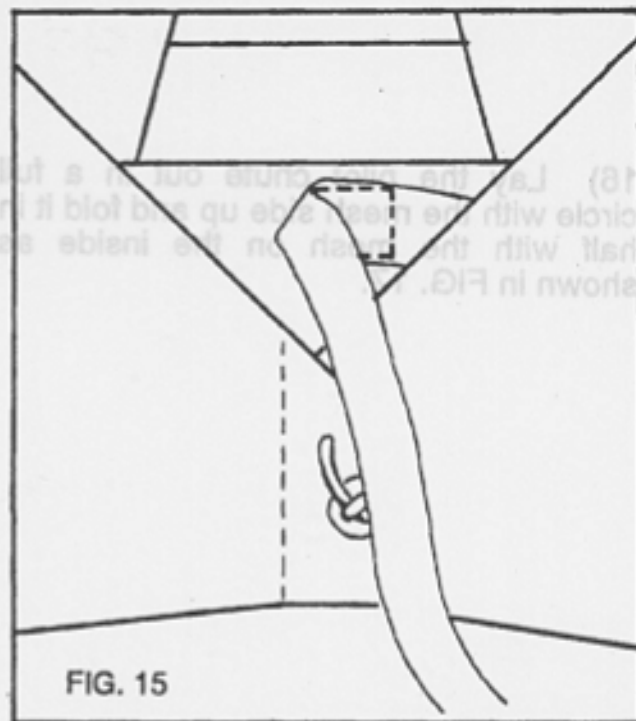

FIG. 15
10) Fold the lower edge of the pilot chute up under the top plate, forming a straight line as shown in FIG. 15.
14) Mate the small patch of velcro just above the curved pin on the main bridle to the corresponding patch in the center of the main top flap as shown in FIG. 15. This is important because it assures that the pilot chute has enough slack to withdraw the pin.